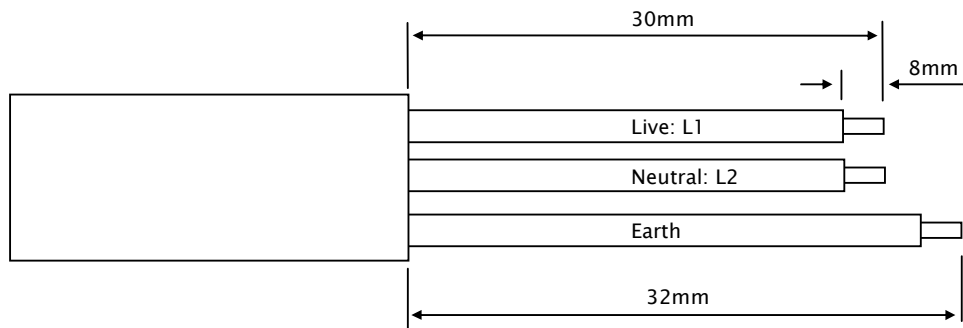

Figure 4.2.1: Power Supply Cable Preparation Diagram
3. Prepare the power supply cable according to the stripping diagram, figure 4.2.1.